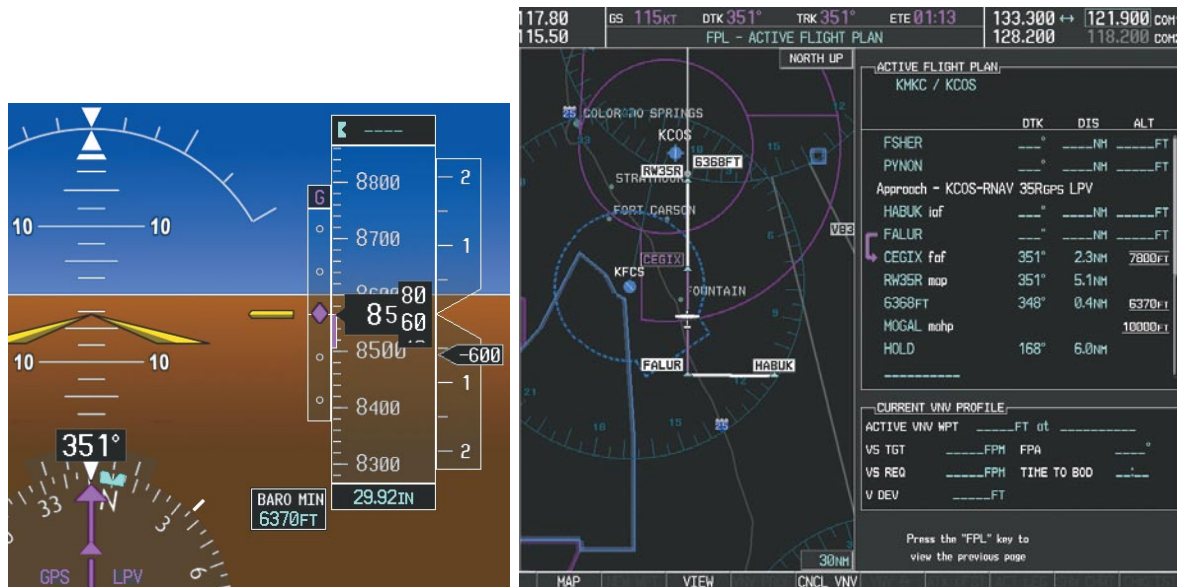

Figure 5-138 Descending to the FAF
- 23) After crossing FALUR the next waypoint is the FAF. The flight phase changes to LPV on the HSI indicating the current phase of flight is in Approach Mode and the approach type is LPV. CDI scaling changes accordingly and is used much like a localizer when flying an ILS approach. The RVSI is no longer displayed and the VDI changes to the Glidepath Indicator (as shown in Figure 5-138) when the final approach course becomes active.
The descent continues through the FAF (CEGIX) using the Glidepath Indicator, as one would use a glideslope indicator, to obtain an altitude "AT" 7,800 feet at the FAF. Note the altitude restriction lines over and under (At) the altitude in the 'ALT' field in Figure 5-138.